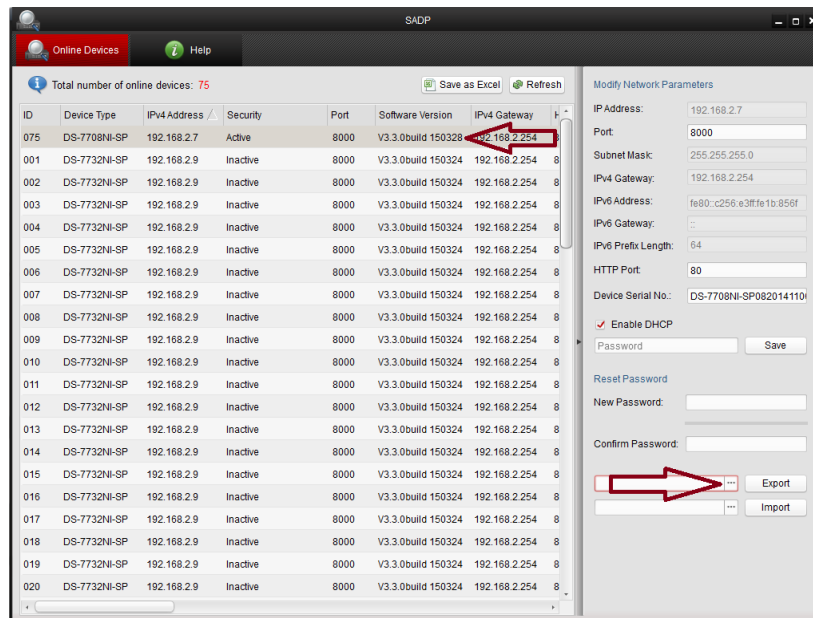

Figure 116 Click the **[Browse]** (...) button
2. Open the SADP Tool and highlight the device for which you need a recovery code. Click the **[Browse]** (...) button (Figure 116).